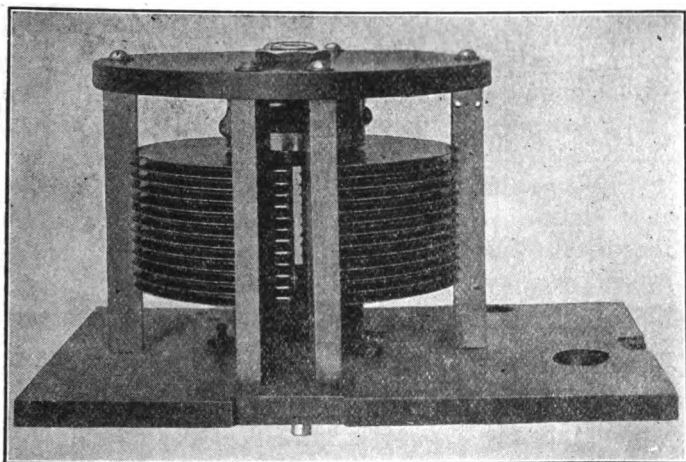

Fig. 13.—Condensers of this Type are Used in Wave Meters for the Signal Corps.
C. Square law type. To give a straight line wavelength calibration, the square law condenser is made with offset variable plates so that the dielectric area is in proportion to the squares of the scale degrees, Fig. 13. In general, there is little advantage in using this type over the straight line type except where the straight wavelength calibration is necessary, as it takes up more space for its capacity than the straight line type.